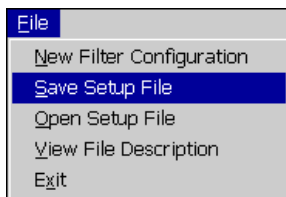

Figure 3-17 Tutorial File Pulldown Menu
56. Access the Save Setup File feature by clicking on **File** in the menu bar. The pulldown menu in Figure 3-17 will appear.